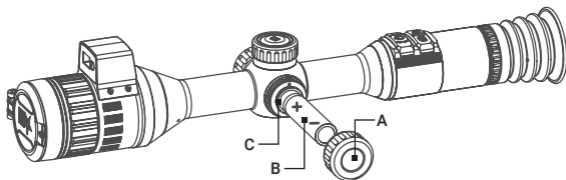

FIGURE 2-2. BATTERY INSTALLATION
1. Turn the battery cover (Figure 2-2, A) counterclockwise to open it.
2. Insert the rechargeable battery type is 18650 (B) into the battery compartment (C) with the positive mark inward.